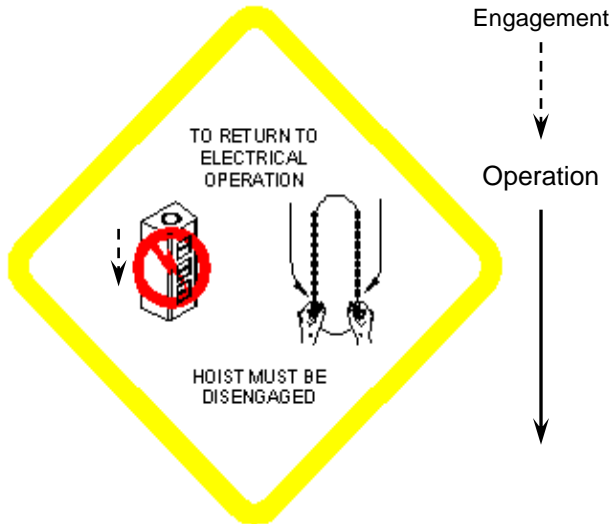

Figure 16 Operating chain to open and close door
2. Continue the traction movement to move the door. If it doesn't run in the desired direction, repeat actions 1 and 2 by pulling the chain in the other direction (See Figure 16).